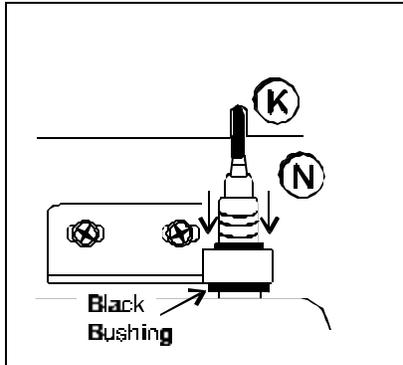

Figure 5-2
9. The shoulder of the bushing must be on top as shown in Illustration B. Install the black plastic bushing into the hinge just removed and which will be the top hinge when the door is reversed. Refer also to Figure 5-2 on the next page.
20. Match the pins on the yellow connector with the socket on the door. Press the connector completely into the socket and slide the strain relief down until no yellow is visible on the plug as shown in “N” of Figure 5-2.